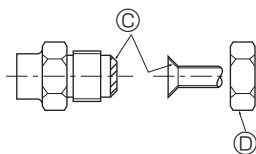

Fig. 4-2
4.2. Connecting pipes (Fig. 4-1) (Fig. 4-2)
- The indoor parts of the drain pipe should be wrapped with polyethylene foam insulation materials (specific gravity of 0.03, thickness of 9 mm, 23/64 inch or more). [Fig. 4-2]